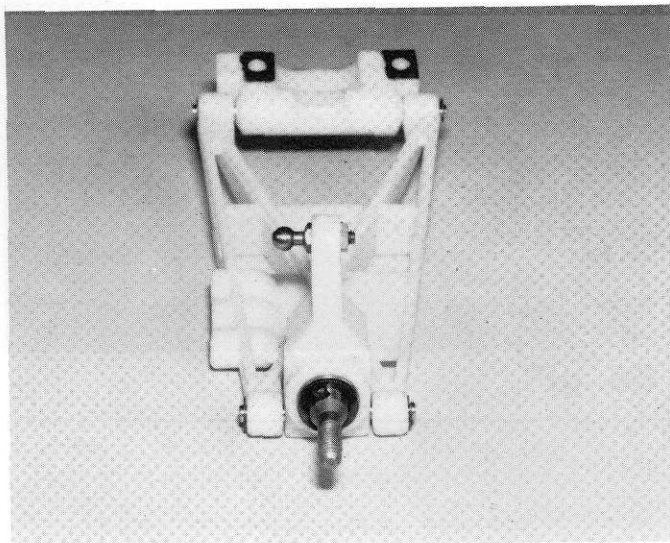

**Fig. 93**
□ **Fig. 93** Install a #6273 steel ball end with the long threads and a #7260 plain nut, as shown. Do the right hand side, but make sure the ball is facing forward.